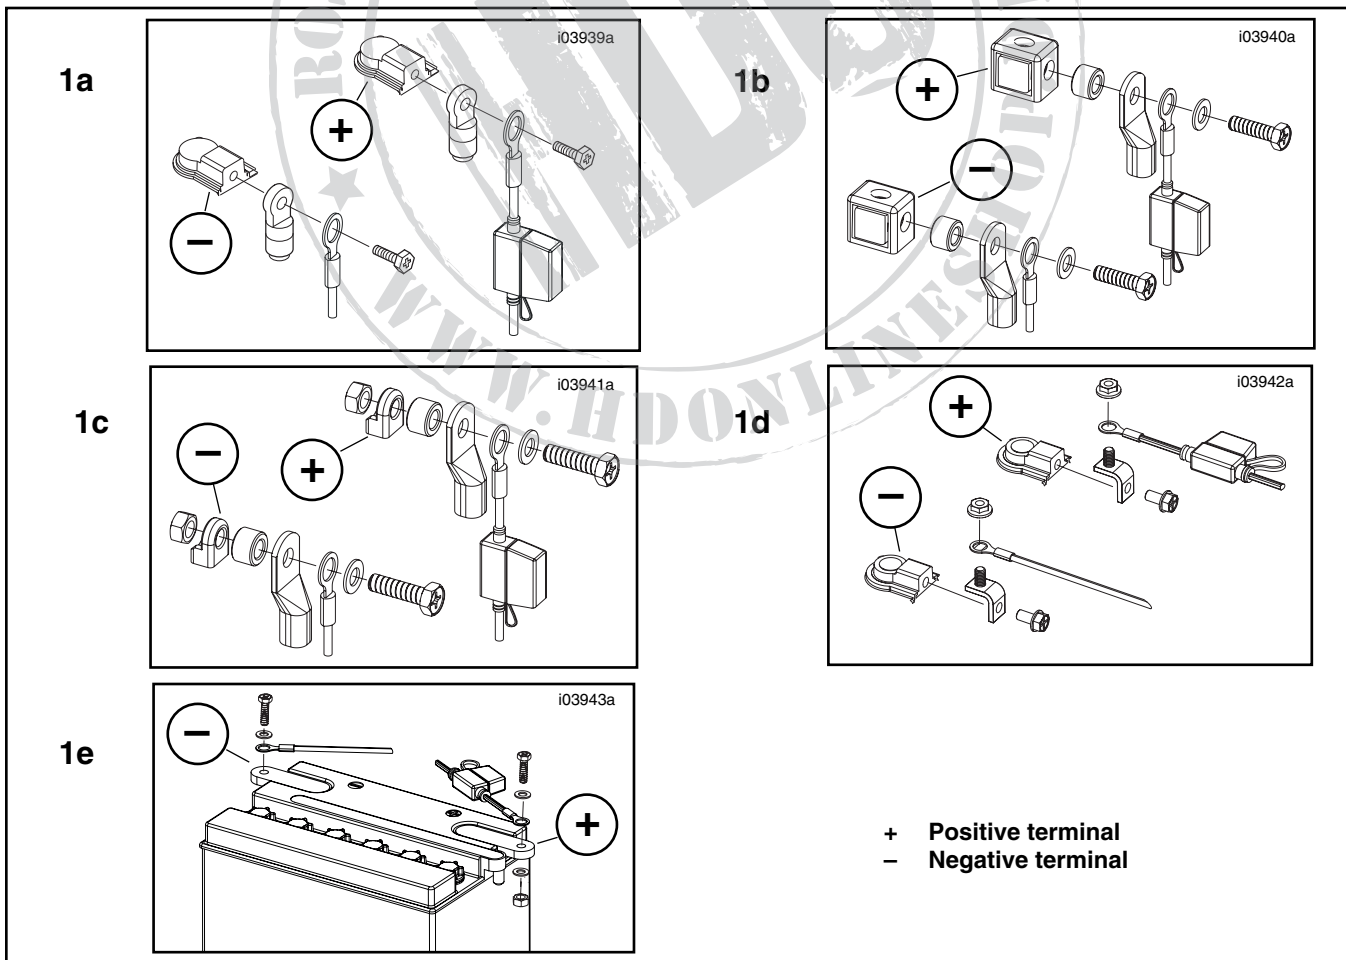

Figure 1. Battery Connection Types
Several variations of battery terminals and connecting hardware have been used over the years on Harley-Davidson motorcycles. Refer to Figure 1 to determine the terminal and hardware type used on your battery.
2. Refer to the applicable view in Figure 1 for your model. Break the battery negative (-) connection by removing the hardware assembly from the negative battery terminal.
6. Refer to the view in Figure 1 used for disassembly. Install the positive (RED) lead of the harness to the positive (+) battery post following the sequence shown.